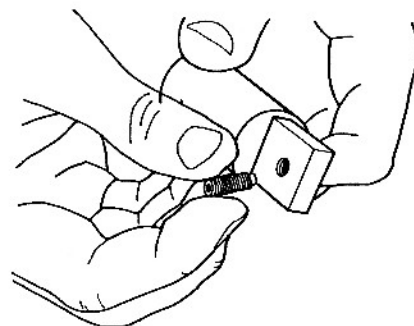

Fig. A-52
59. Thread a setscrew into a connector bracket, as shown in Fig. A-52.